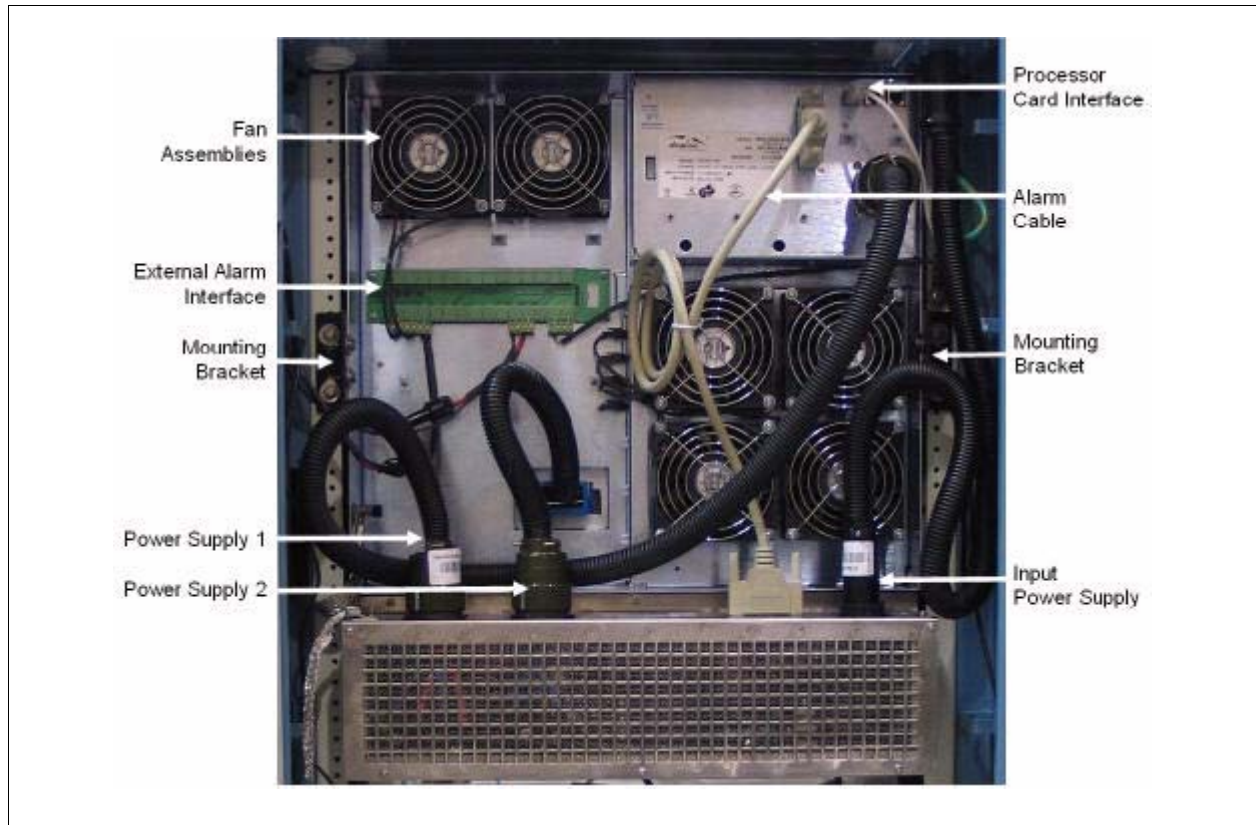

Figure 1-10: Micro Subrack and Power Supply Assembly Rear View
- The power supply subrack assembly power cables are connected to the Micro subrack assembly. See Figure 1-10, Power Supply Cable 1 and Power Supply Cable 2.
Figure 1-10 shows the location of the following components from the rear view of the Micro subrack assembly and power supply assembly: